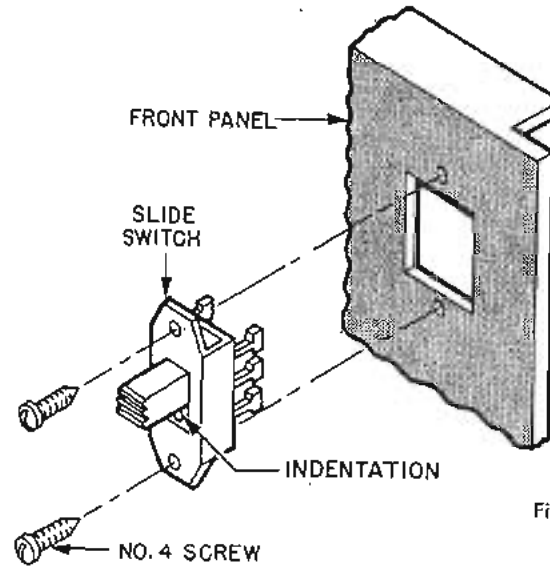

Figure 1-2
Step 1-B Mount the five slide switches as shown in Fig. 8 and Fig. 1-2 using the appropriate hardware. While tightening the switches in place, hold them in the approximate center of the panel hole.